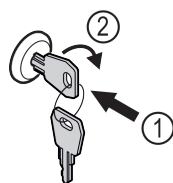

Fig. 180 Example illustration
- Insert key Fig. 180 (1).
- Turn key clockwise by 90° Fig. 180 (2).